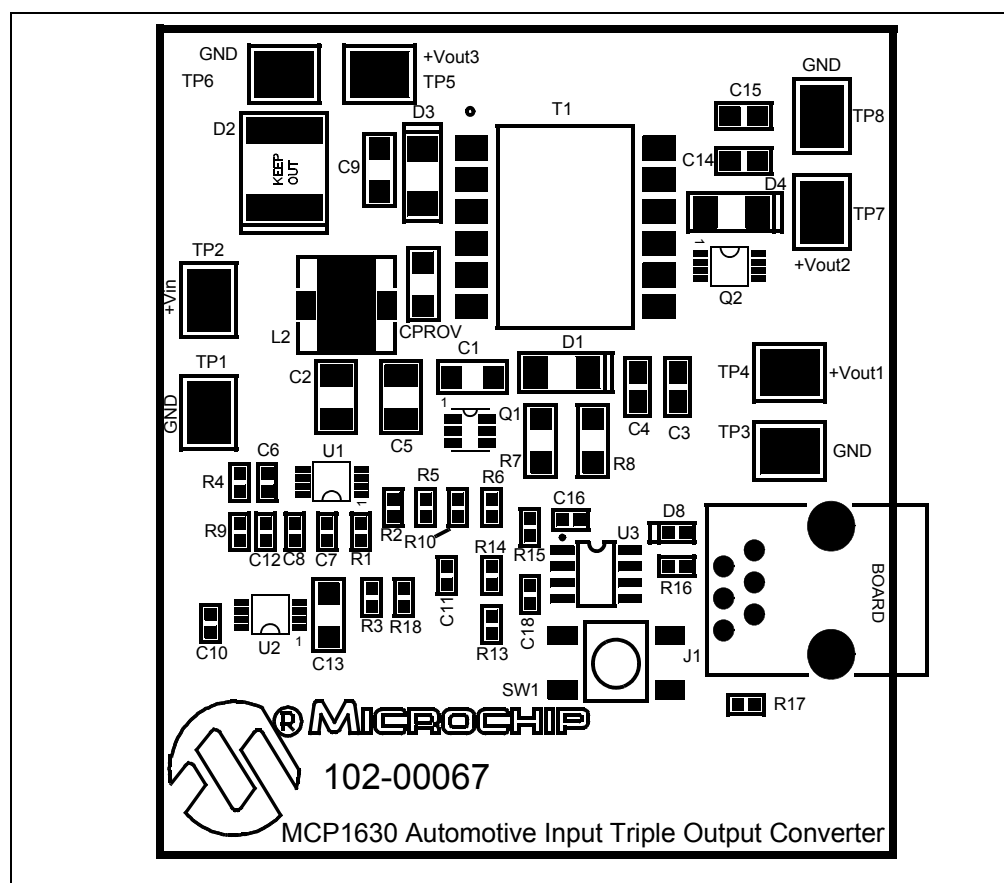

FIGURE 2-1: Setup Configuration Diagram.
1. Connect the positive side of the input source (+) to TP2. Connect the negative or return side (-) of input source to TP1. Refer to figure 2-1. The input voltage should be limited from 6.5V to 40V range. As the input voltage is applied and the system powers up, the firmware program of the PIC12F683 device will initialize and help the converter remain in low-power sleep mode ($<0.1 \mu\text{A}$) until the SW1 push button is pressed by the user.